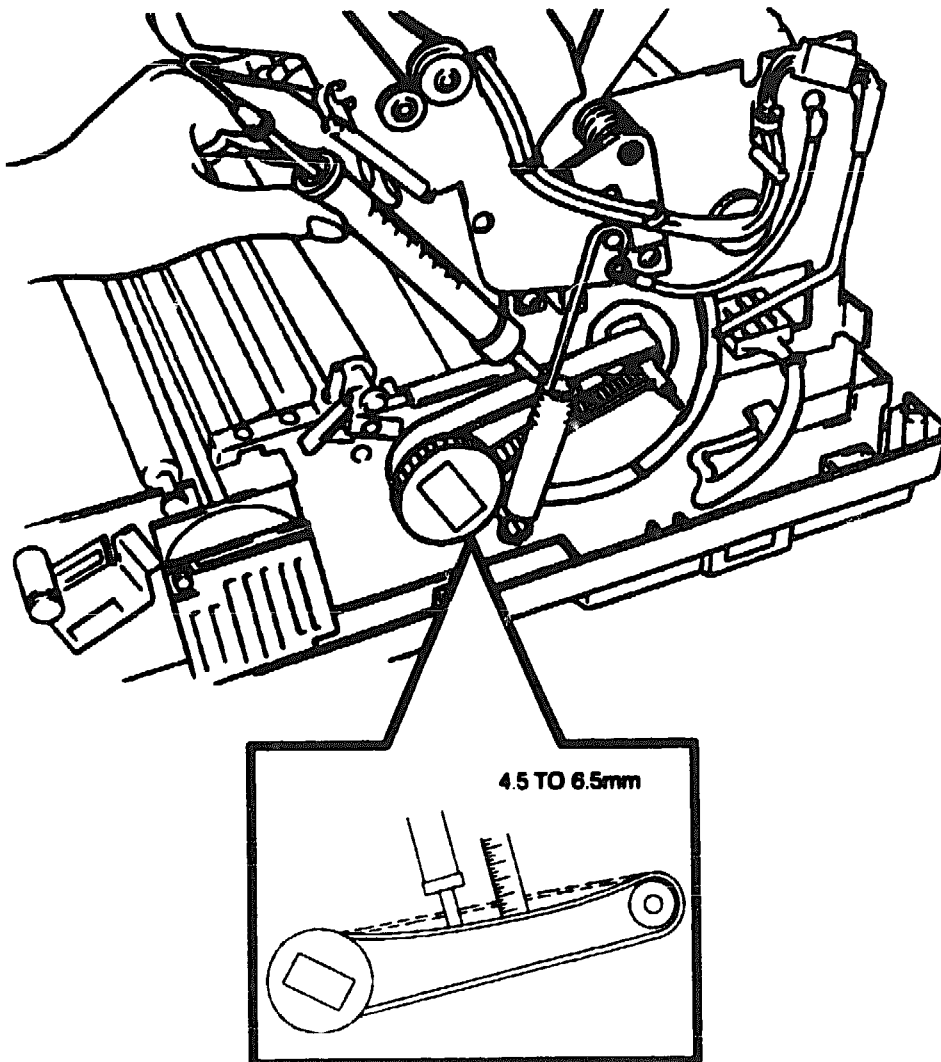

Figure 4-4 Timing Belt B140MXL9.5 Tension Measurement
2. Using a tension gauge, press on the center of timing belt B140MXL9.5 with a load of 300 g. Then, using a small, metric ruler, check that the flexure value of the pressed belt is 4.5 to 6.5 mm (see Figure 4-4). If the correct value is not attained, proceed as follows.